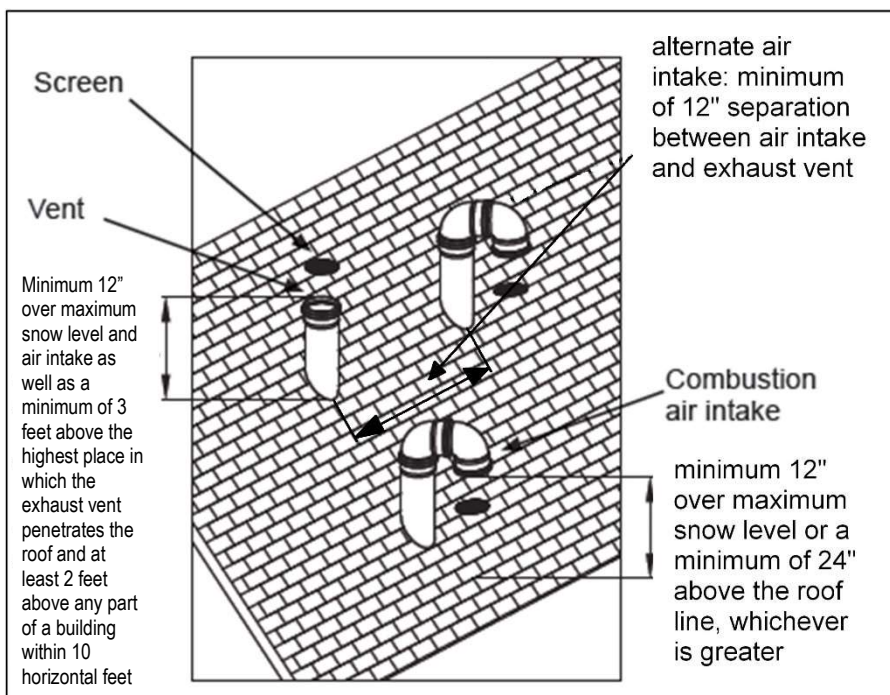

Figure 10.23
6. Maintain the required dimensions of the finished termination piping as shown in Figure 10.23.
- When terminating multiple boilers, terminate each vent/air connection as described in this manual (figures 10.23, 10.24 and 10.25).
When two (2) or more direct vent appliances are vented near each other, each appliance must be individually vented (see figures 10.23, 10.24, 10.27 or 10.28) or common vented (see Chapter 11). It is important that vent terminations be installed as shown to avoid recirculation of flue gases.